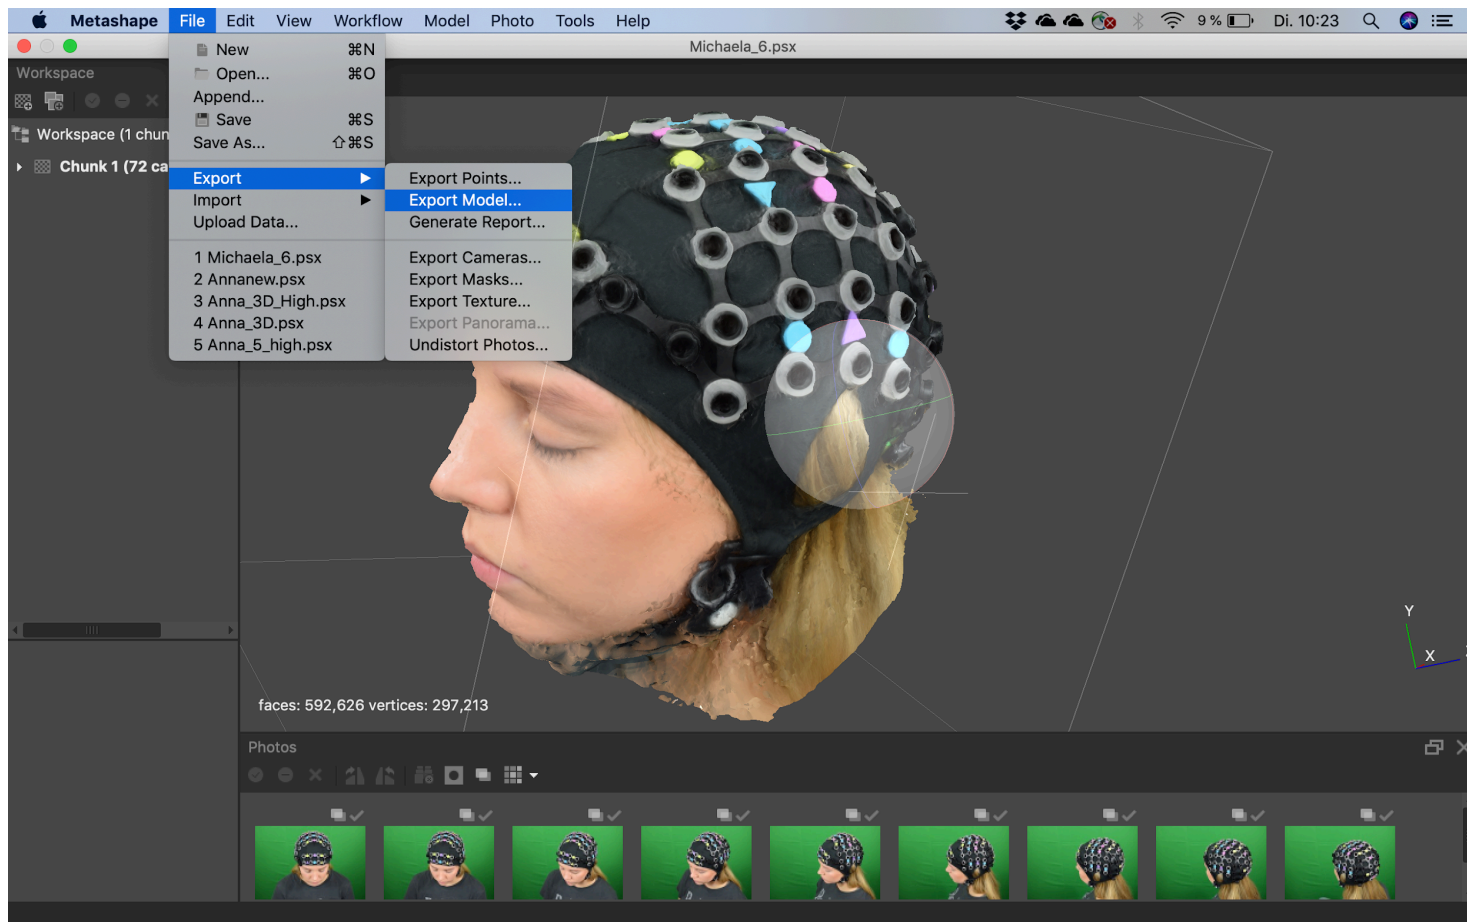

Figure 28. Exporting the model from Metashape
13. Export the model from Metashape by clicking “File”, “Export”, “Model” (**settings:** deselect all except for export texture) (Figure 28 and 29).